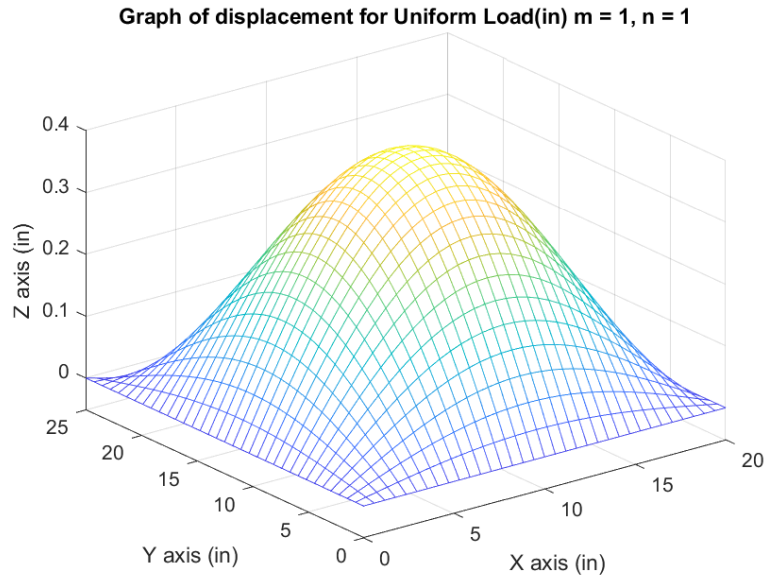

Figure 7:
The stresses were then again found using equations (4), (5), (6) and (7) again. The plots for all the  $m$  and  $n$  values for part a-c are in figures 7 through 15.